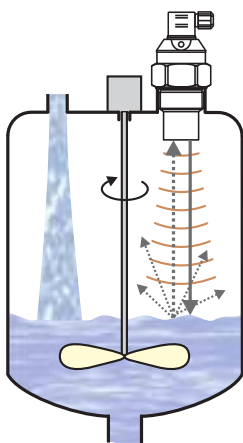

Fig. 11: Moderately stirred surface
- Scattering or attenuation of the ultrasonic signal can result if the surface level has been **moderately stirred** or **rippled** as a consequence a stirrer's operation, inflow of liquid and the like. Consequently, measuring range or unreliable level meter's functioning might follow (Fig. 11).